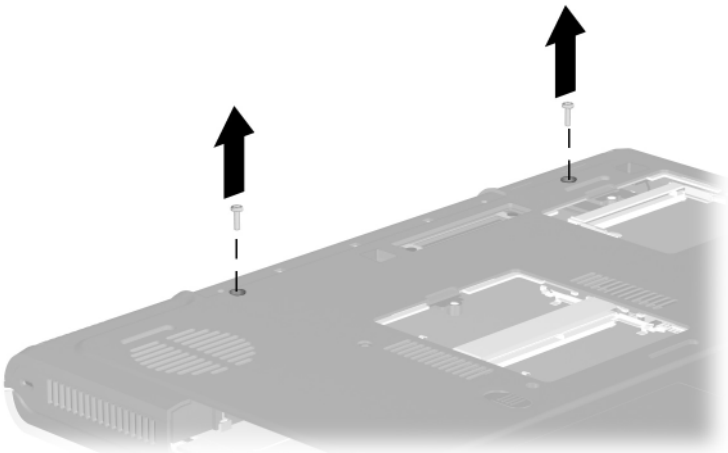

Figure 5-13. Removing the LED Cover Screws
3. Remove the two black PM2.0 × 10.0 screws that secure the LED cover to the base enclosure (Figure 5-13).